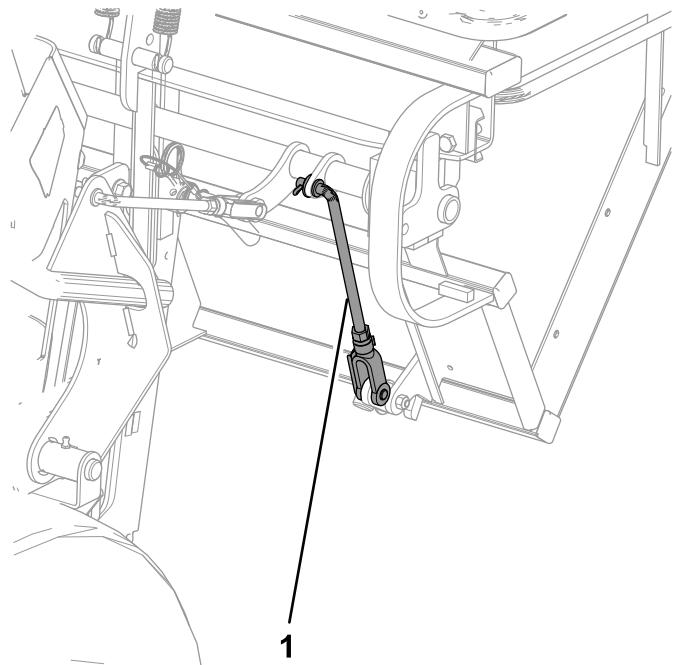

Figure 55
4. Ensure that the latches completely engage and contacts the latch rod welded to the door (Figure 55).